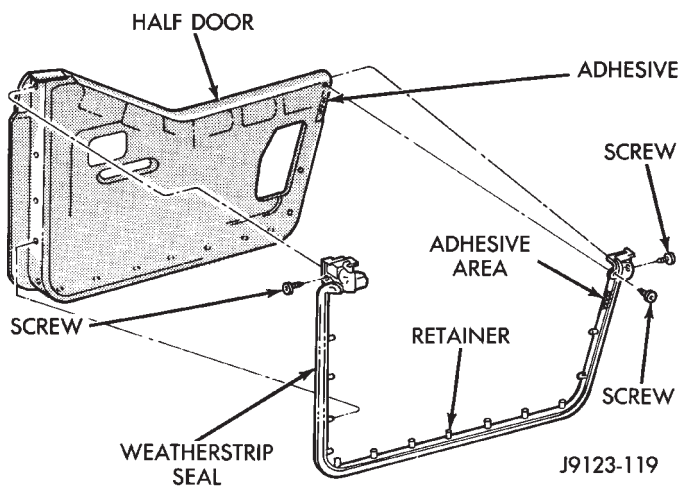

Fig. 5 Half-Metal Door Weatherstrip Seal
(10) Remove the weatherstrip seal screws and carefully remove the weatherstrip seal from door edge (Fig. 5).
(3) Install the weatherstrip seal on the door edge and install the seal retaining screws (Fig. 5).